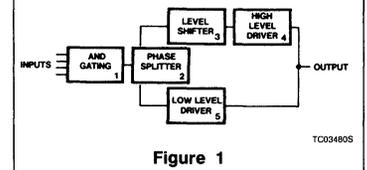

Figure 1
All TTL products are derived from a common NAND logic structure. The NAND circuit is actually five subcircuits as shown in Figure 1 and each performs a separate function. The input circuit (1) is an AND gate usually fabricated with a multi-emitter transistor which characterizes TTL technology. Many Schottky processed circuits have been designed with PNP or diode inputs in order to optimize the speed/power performance of the circuits.